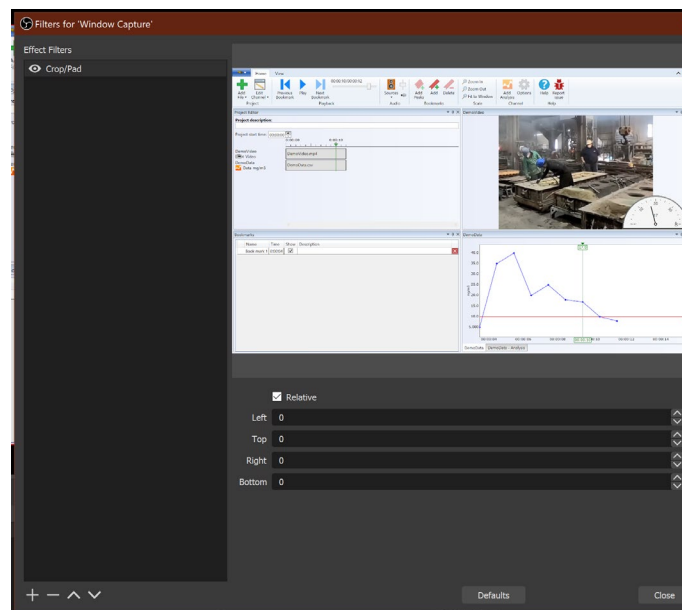

Figure 19 Cropping the window.
7. To crop the window, right click on the Windows Capture source and click Filters. This will open a window where you can add or remove filters. Add a Crop/Pad filter and you will be able to adjust the cropping of the window (Figure 19).